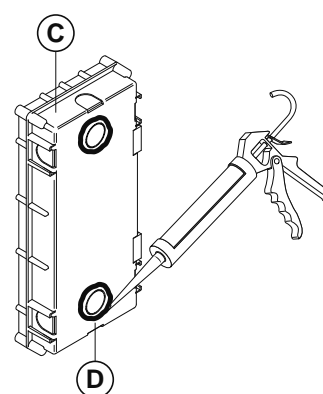

Fig. 48
**Before fitting the flush box (C) into the wall it is recommended that in order to prevent water ingress a silicon sealant is used between the wall and the flush box (C) (Fig.48) and around the flush box openings (D) (Fig.48);**